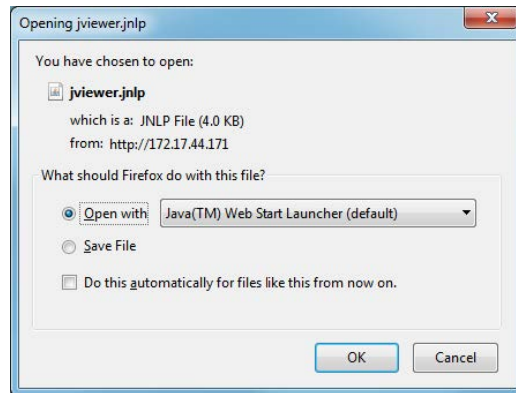

Figure 6.9 Opening JAVA
5. Select **Launch JViewer. Open with: Java™ Web Start Launcher** (default) is automatically selected as shown Figure 6.9 on page 71. Click **OK** to proceed.